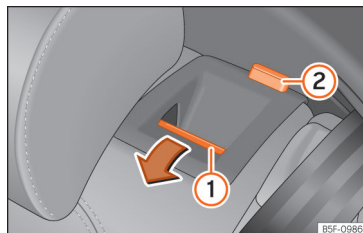

Fig. 66 Rear seat: folding down the backrest.
- Press the unlock button >>> Fig. 66 ① forwards and at the same time fold the backrest down. The rear seat backrest is not engaged when the red marking of the button ② is visible.